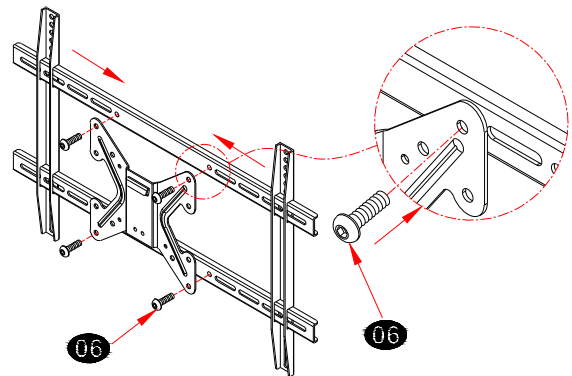

figure 2
Instruction:Attach connecting plate (D) to fixed arm (C) using ①⑥,slide TV bracket (B) onto (C).(figure 2).